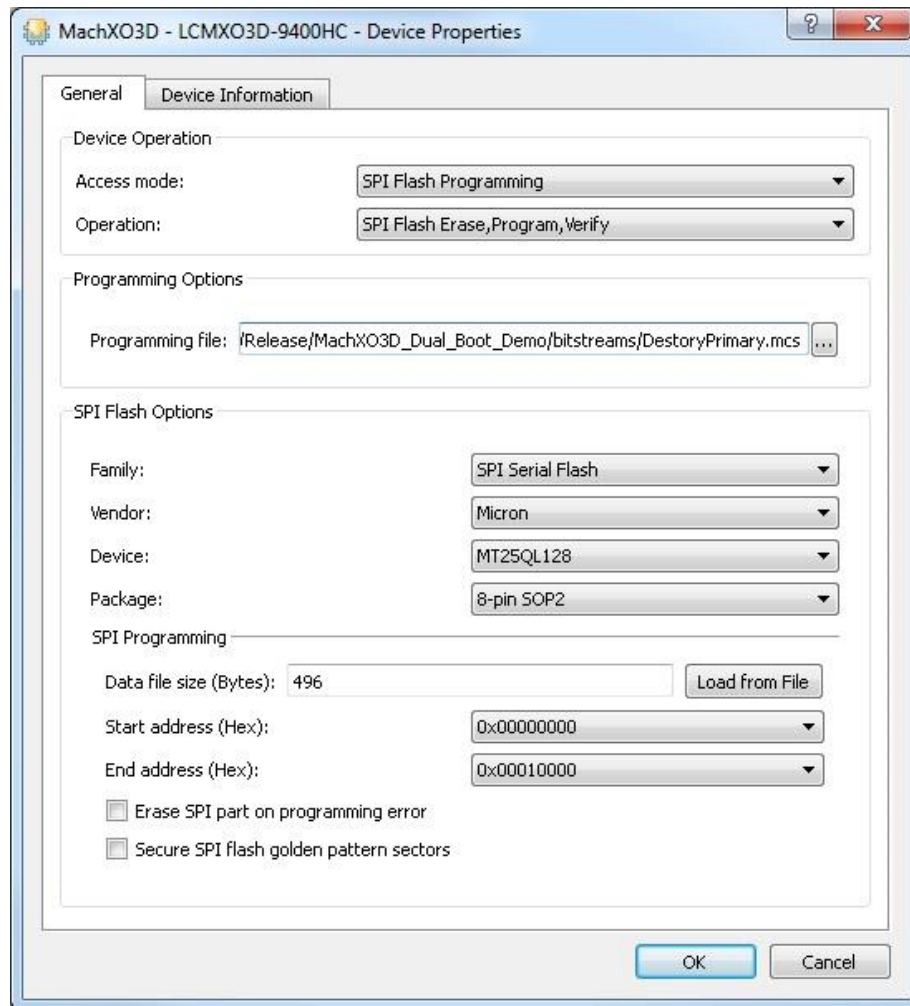

Figure 5.13. Set Device Properties for External SPI Flash to Disrupt Primary Pattern
4. From the Diamond Programmer GUI, choose **File > Open file....** Browse to find and open **pgm_ext.xcf** from the demo package downloaded (as shown in Figure 3.1). Click ... to change the **Programming file** to **DestoryPrimary.mcs** in the **Programming Options** area, as shown in Figure 5.13, which destroys the Primary pattern of the external SPI Flash.